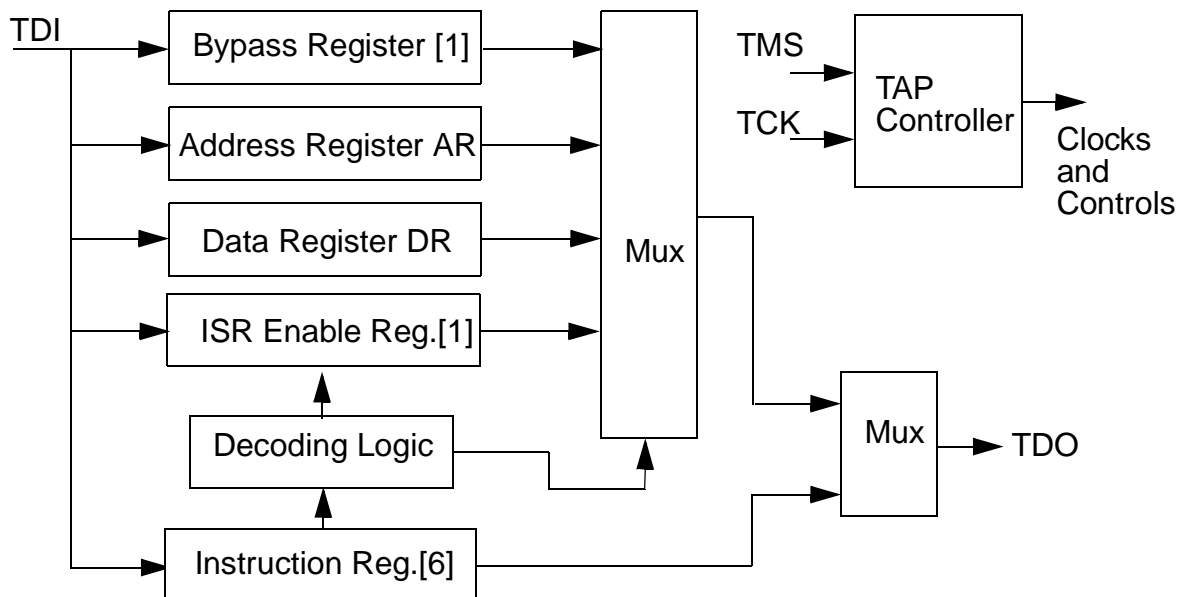

Figure 2. Ultra37000 ISR Interface Registers
Figure 2 shows the ISR internal registers that are linked between the test data input (TDI) and the test data output (TDO). The five ISR internal registers are: the Address Register (AR), the Data Register (DR), the Bypass Register (BR), the Instruction Register (IR), and the ISR Enable Register.